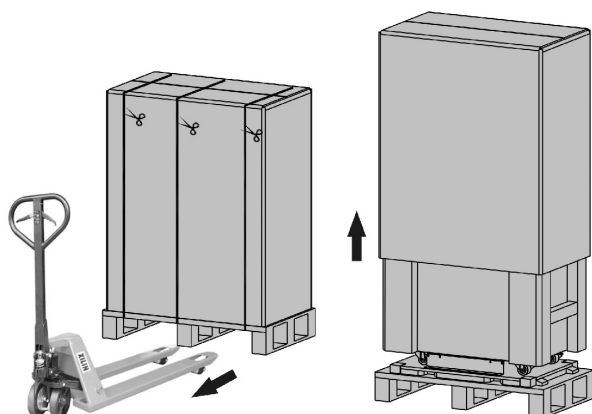

Fig. 4.
- ☐ To unpack the equipment, just follow the sequence from figure 4 to 6 (cut the bands on the cardboard packing and take it out through the top as it were a cover or remove it with the necessary tools if the packing is made of wood; remove the corner pieces and the plastic sleeve. The UPS will be naked over the pallet.